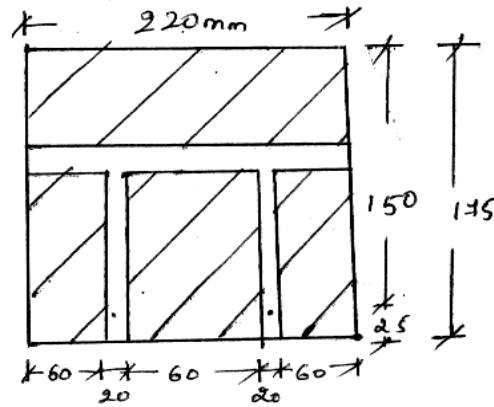

Fig 7.1.
- c. A reinforced brickwork lintel is made of brick on edge having a total depth of 175 mm and breadth equal to 220 mm. The total reinforcement consists of 4 numbers of 6 mm ϕ mild steel bars placed at 25 mm from bottom face as shown in Fig. 7.1. The characteristic strength of brickwork and steel are 8 N/mm^2 and 250 N/mm^2 respectively. Determine the moment capacity of the lintel.